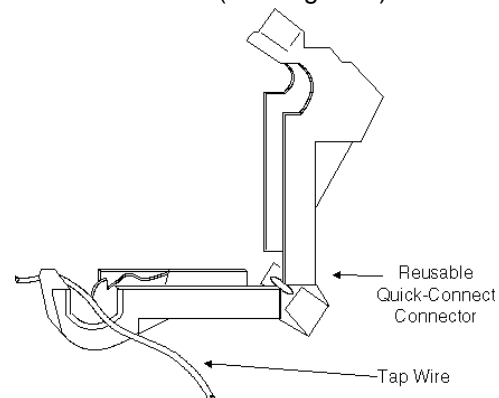

Figure 2. Attaching the Reuseable Quick Connect Connector (V-5330200 only)
3. Install the Quick-Connect connector on the wire. Use pliers to close the connector over the wire. The connector can be removed by prying it open with a screwdriver, and can be reused several times (See Figure 2).